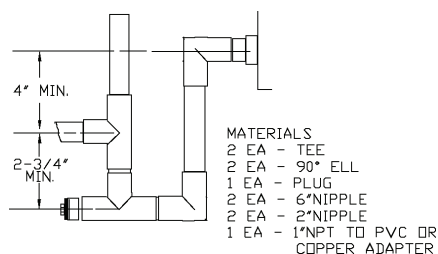

Figure 6.
**Note:** *Important! When air handler is installed in the vertical position and close proximity trapping of condensate is required, use of a subbase accessory to raise the air handler for clearance of the drain trap is recommended. See Figure 6 for a typical drain trap assembly*